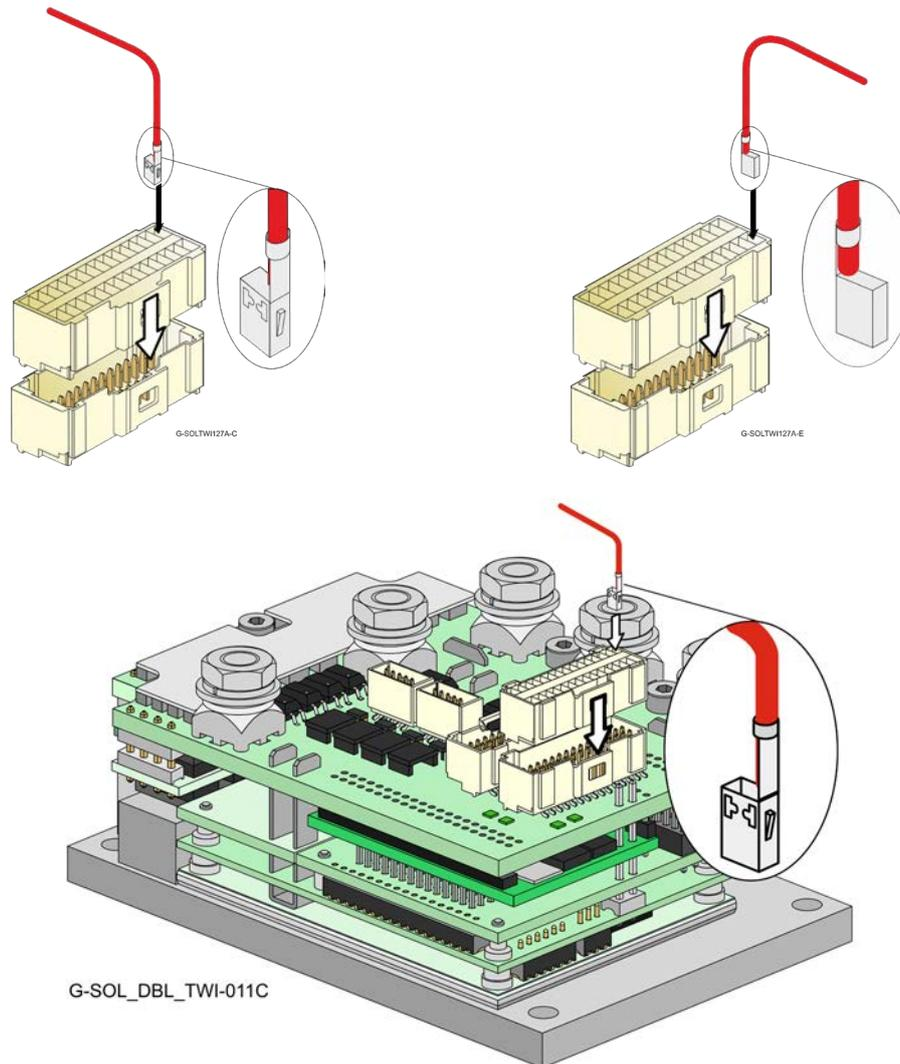

Figure 6: Inserting a wire/pin to the Female Connector
3. Place the connector on a flat surface, in the orientation as shown in Figure 6. Notice that the rectangular slot has a niche at the bottom of the slot.
4. Insert the wire connector to the slot as shown in Figure 6. Make sure that the connector protrusion is inserted to the bottom of the rectangular slot. When inserting the wire connector to a slot in the second row, make sure to rotate the connector in the opposite orientation.